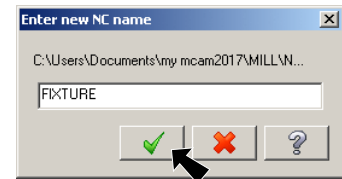

Fig. 41
Step 2. Click OK  in the NC name dialog, **Fig. 41**.